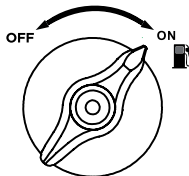

Figure 7: Turn Fuel Switch to ON Position
- (1) 120V Circuit Breaker Operating Position
- (2) 120V Circuit Breaker Tripped Position
4. Turn the Fuel Control Switch to the **ON** position (see Figure 7).
4. Confirm that the Fuel Control Switch is in the **ON** position (see Figure 7).